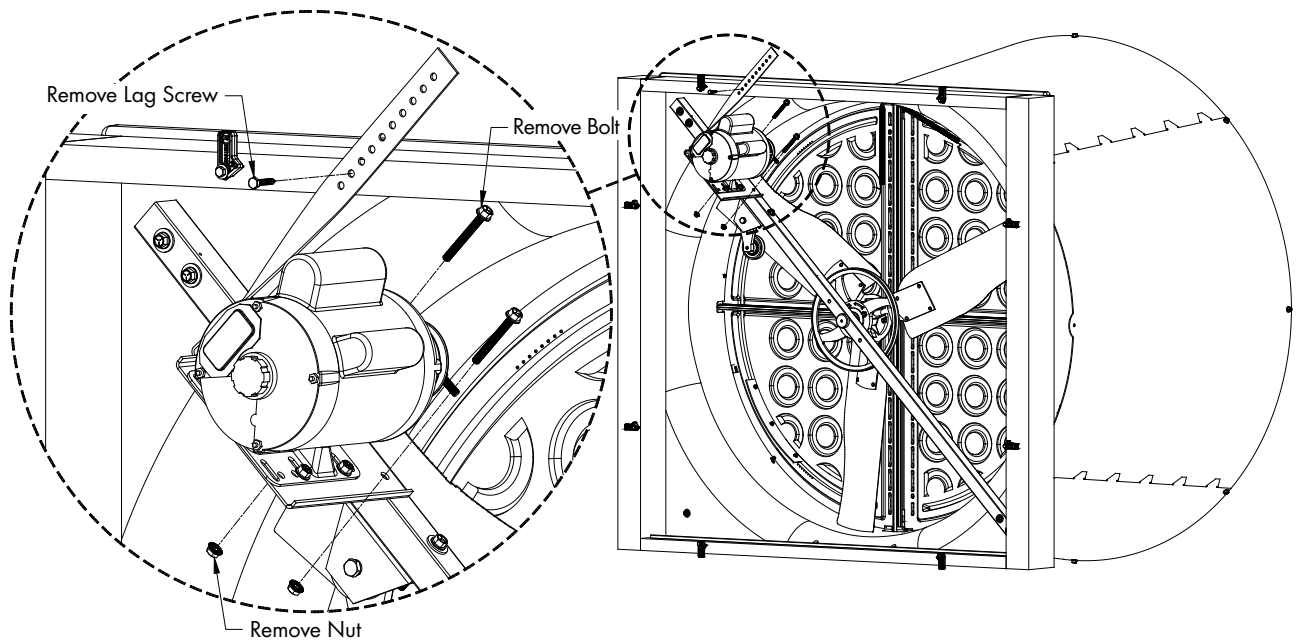

Figure 3
Remove lag screw from stiffener bracket. Remove the (2) bolts and nuts holding the motor base to strut and remove motor with base from fan. See Figure 3.